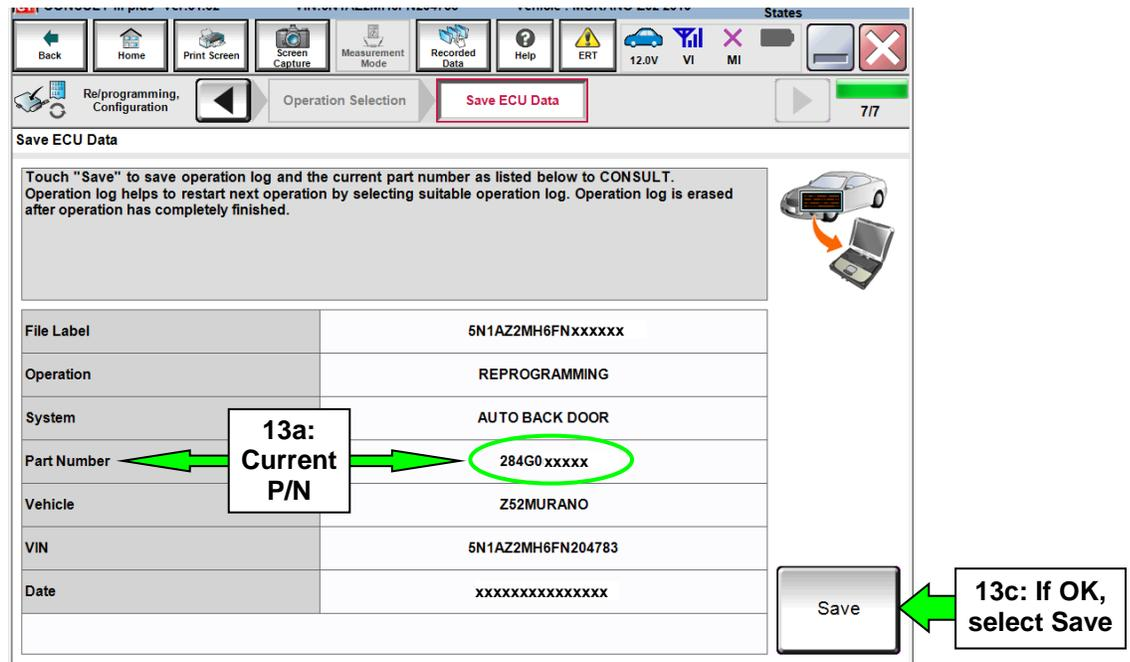

Figure 8
13. When you get to the screen shown in Figure 8, confirm reprogramming applies as follows: